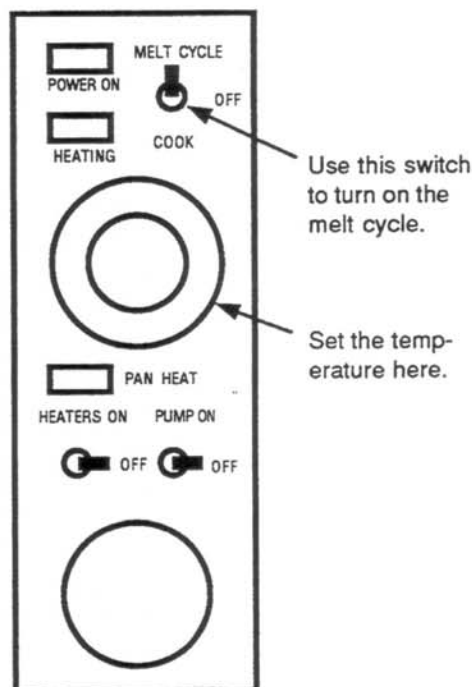

Fig. 12
2. Set the Melt Cycle-Off-Cook switch to the Melt Cycle position. See Fig. 12. The main burners in the fryer will light for 4 seconds, then turn off for 30 seconds. The Heating lamp will glow whenever the main burners are turned on.
1. If you are using solid shortening, set the Melt Cycle-Off-Cook switch to the Melt Cycle position. See Fig. 12. The burners in the fryer will now come on for 4 seconds, then turn off for 30 seconds. This allows the fryer to heat the solid shortening slowly.